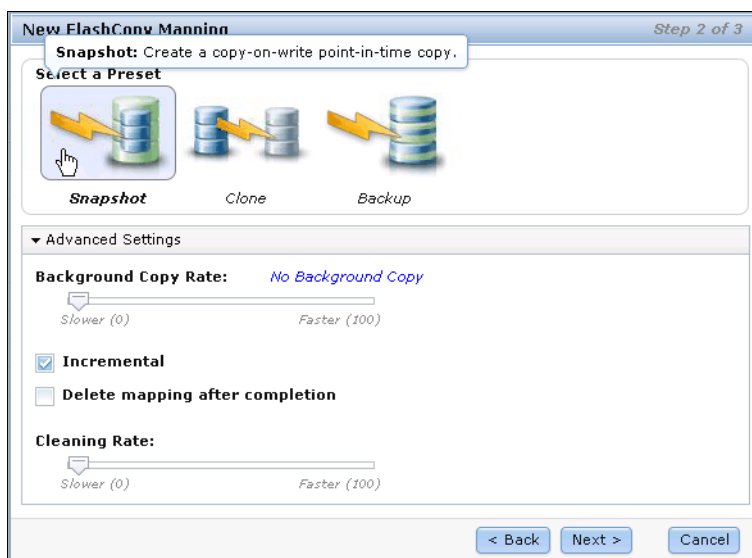

Figure 9-28 Select a preset and make your adjustments
- c. Select the preset and adjust the settings (Figure 9-28). Make sure that the settings meet your requirements, and click **Next**.